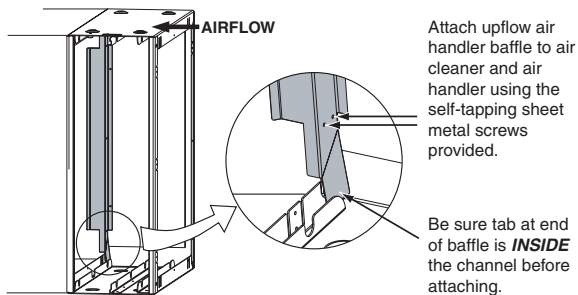

Figure 15 Upflow Air Handler Baffle Installation Details
- Position the baffle onto the air cleaner as indicated in Figure 15. The baffle should be positioned on the leaving air side of the air cleaner cabinet opposite the power door. Ensure that the bracket is located correctly inside the air cleaner enclosure so that the baffle or screws do not interfere with the filter cell installation. (See Figure 15 inset.)